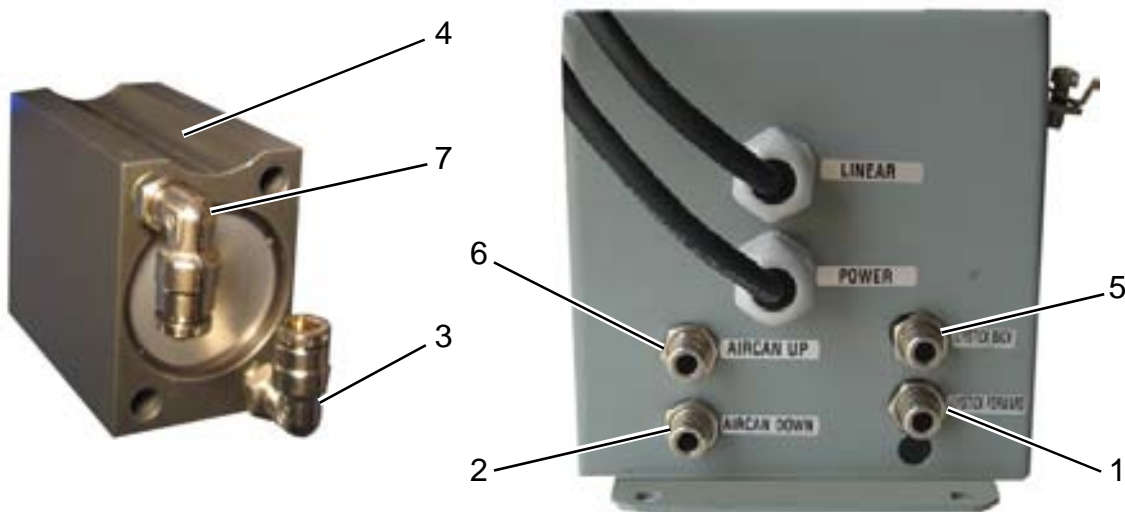

Figure 21
- Move the joystick forward and identify which air line expels air. Connect the identified air line to the "JOYSTICK FORWARD" (**Figure 21, 1**) port on the control box. After connecting air line, air should expel from the connection labeled "AIRCAN DOWN" (**Figure 21, 2**).
- Connect the opposite end of the air line in the air actuator fitting located at "Port 2" (**Figure 21, 3**). "Port 2" is located away from the curved side (**Figure 21, 4**) of the air actuator.
- Move the joystick back and identify the other air line that expels air. Connect the identified air line to the "JOYSTICK BACK" (**Figure 21, 5**) port on the control box. After connecting air line, air should expel from the connection labeled "AIRCAN UP" (**Figure 21, 6**).
- Connect the opposite end of the air line in the air actuator fitting located at "Port 1" (**Figure 21, 7**). "Port 1" is located near the curved side (**Figure 21, 4**) of the air actuator.